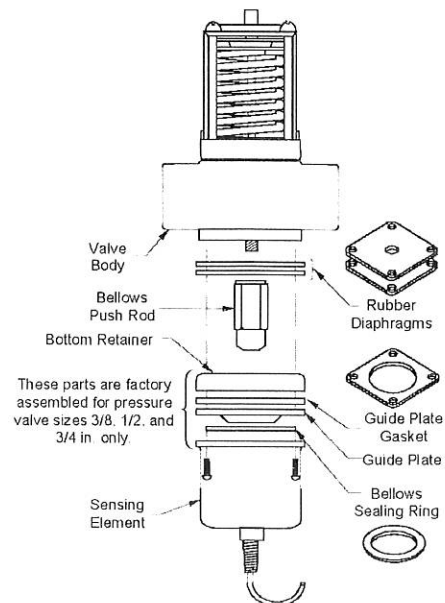

Figure 5: Guide Plate Gasket and Bellows Sealing Ring Identifications
9. Replace the diaphragms between the sensing element and valve body (Figure 5). Use two diaphragms on 3/8 in., 1/2 in., and 3/4 in. valves and three diaphragms on 1 in. and larger valves.
10. On 1 in. and larger pressure valves and all temperature valves, replace the guide plate gasket and bellows sealing ring (Figure 5).